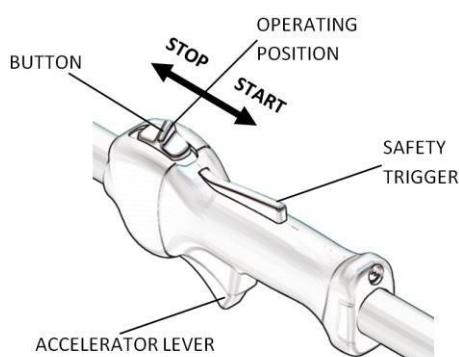
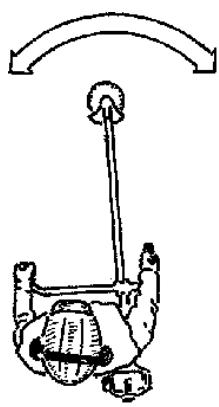

Fig.17
Fig.21
For the correct use of the gas control handle (Fig. 17), the operator must be familiar with all its functions, and in this way switch on the machine and keep the work speed under control
- Leave the red switch on the gas handle on operating position (see fig. 17). Rotate the red air lever onto starting position (**vedi fig. 21**) towards left (clockwise). Now it important to avoid accelerating, otherwise the red air lever will return to initial position and the engine will not start.
Grass is cut as if operating in corridors 1.5 meters wide by moving forward step by step and swinging the machine right and left. Make sure that you are standing securely on both feet before taking a new step (Fig. 21). When using the grass-cutter disks, always cut from right to left and leave a pile of cut grass on the left for subsequent recovery.
After finishing work, clean the machine and the cutting organ from any dirt or grass, protect the blades or the disk saws with the protection provided in order to prevent injury during transport (Fig. 17).